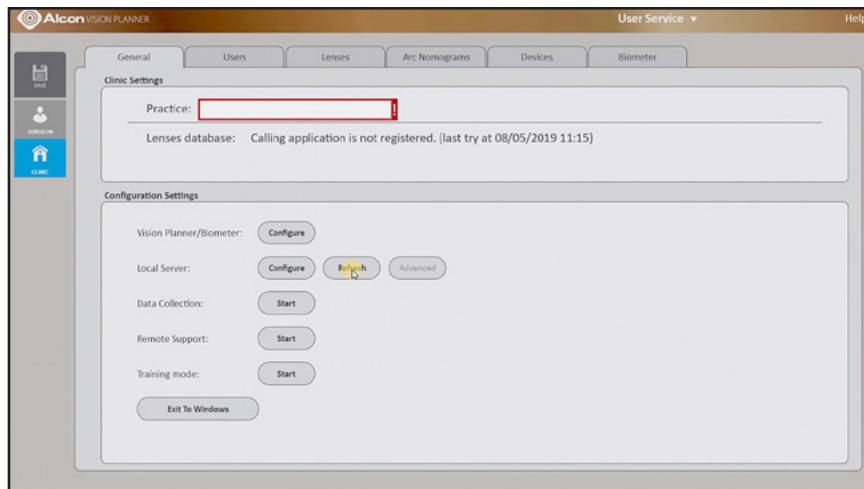

Figure 2-26 Service Screen - Server Refresh
- Click **Refresh** in the Configuration Settings panel (see **Figure 2-26**).